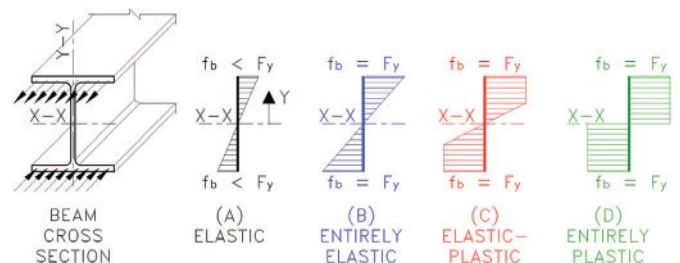

Fig. 3. Stages A, B, C, and D of internal stress as external load is created on the beam.
**Stage B: entirely elastic stresses.** Let's increase the external load on our simply supported beam until the extreme fiber reaches the yield stress,  $F_y$ , as shown in Figure 3.
**Stage C: elastic-plastic stresses.** Now let's increase the external load on our simply supported beam some more so that more of the cross section reaches the yield stress,  $F_y$ , as shown in Figure 3.
**Stage D: entirely plastic stresses.** Finally, let's increase the external load on our simply supported beam until the entire cross section reaches the yield stress,  $F_y$ , as shown in Figure 3.